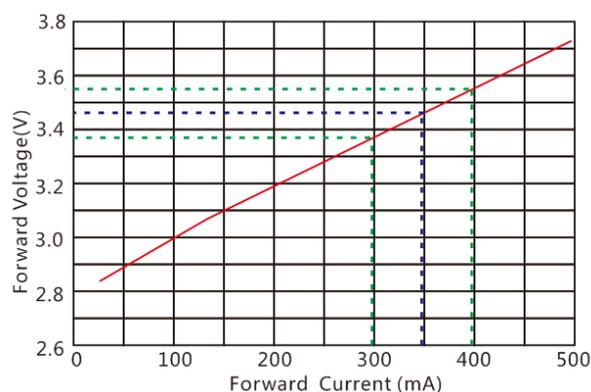

Figure 3.27 LED lamp V-I curve
A LED lightbar has 10 piece LEDs in series, each single LED I-V curve showed in Figure 3.27.
3. According to the V-I curve in Figure 3.27, the tangent line slope of the working point is the operating point resistance R_d ,